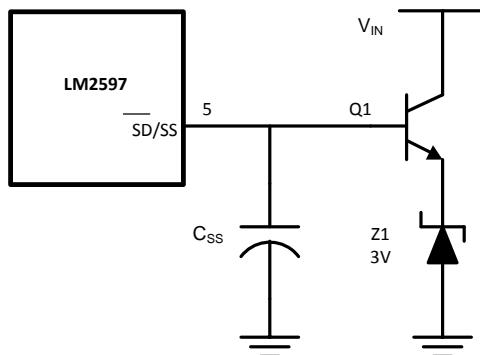

Figure 32. External 3.7-V Soft-Start Clamp
4. Normal operation – Above 2.8 V, the circuit operates as a standard Pulse Width Modulated switching regulator. The capacitor will continue to charge up until it reaches the internal clamp voltage of approximately 7 V. If this pin is driven from a voltage source, the current must limit to about 1 mA. If the part is operated with an input voltage at or below the internal soft-start clamp voltage of approximately 7 V, the voltage on the \overline{SD}/SS pin tracks the input voltage and can be disturbed by a step in the voltage. To maintain proper function under these conditions, TI strongly recommends clamping the \overline{SD}/SS pin externally between the 3-V maximum soft-start threshold and the 4.5-V minimum input voltage. Figure 32 is an example of an external 3.7 V (approximately) clamp that prevents a line-step related glitch but does not interfere with the soft-start behavior of the device.